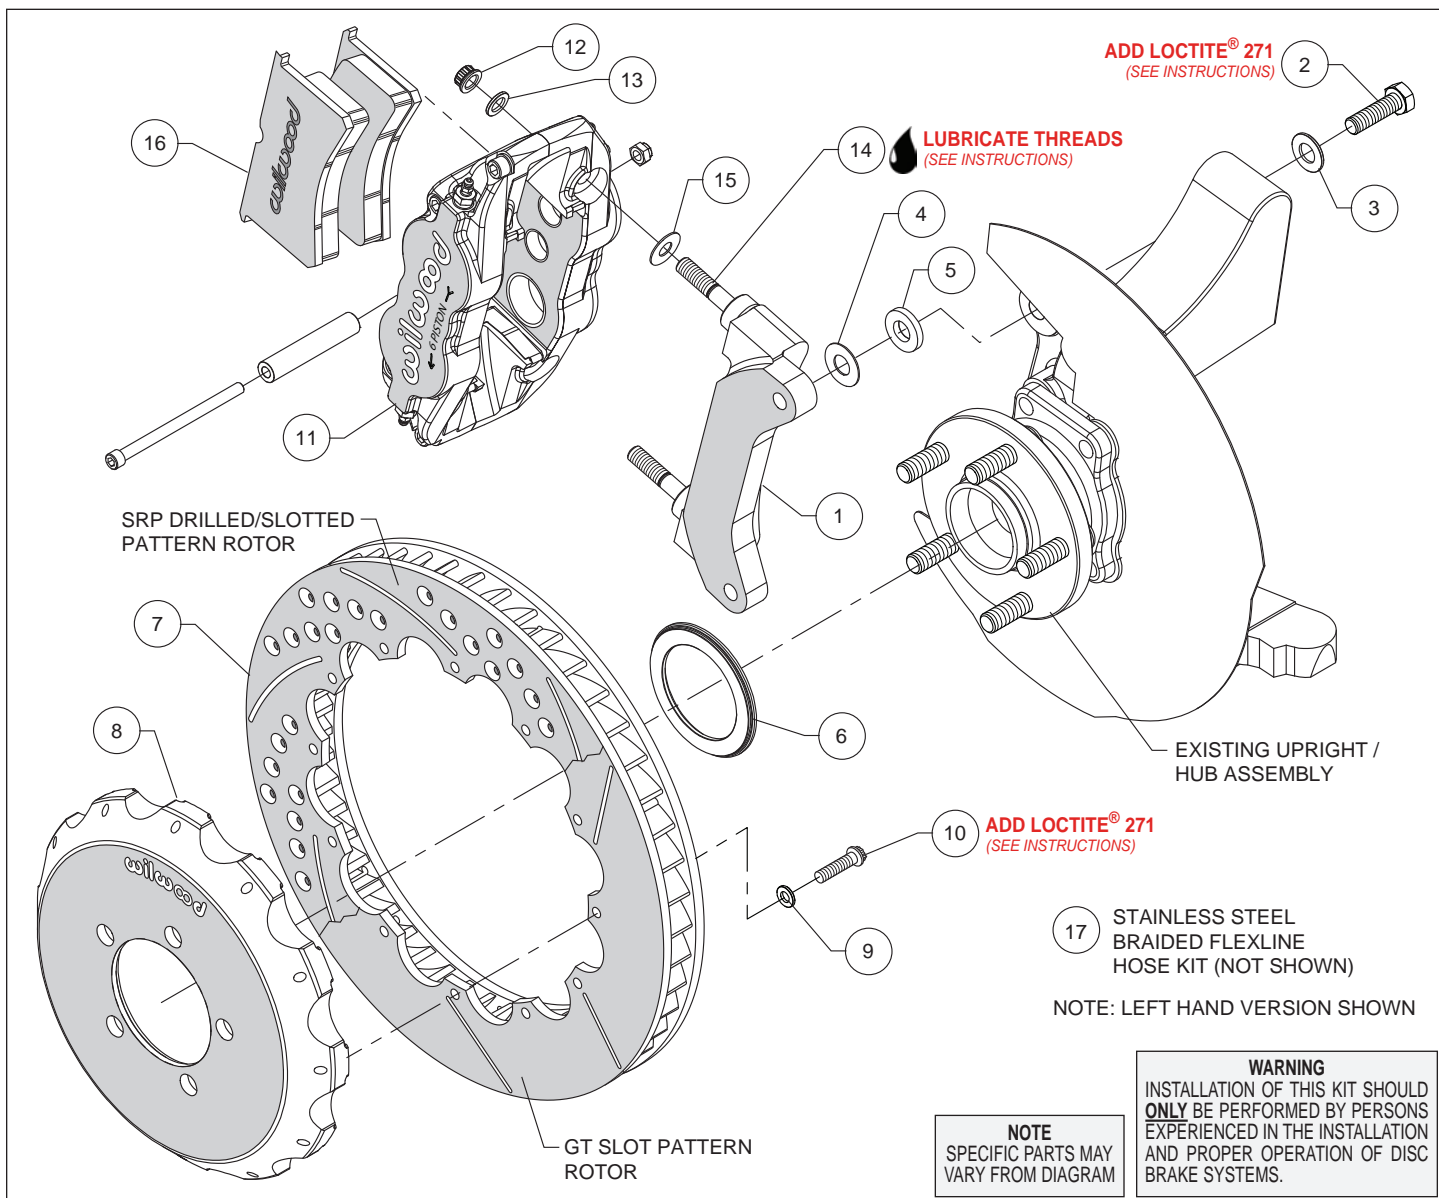
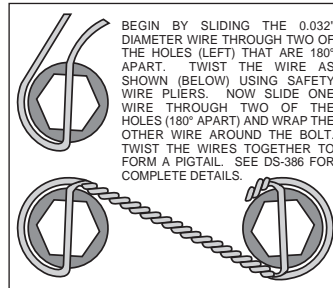

Figure 1. Typical Installation Configuration
Figure 3. Safety Wire Diagram
Assembly Instructions (numbers in parenthesis refer to the parts list and Figure 1 on the preceding pages):
- The caliper mount bracket (1) should initially be installed with clean, dry threads on the mounting bolts. Orient the bracket as shown in Figure 1 and Photo 1, and install using washers (3) and bolts (2). Initially place one shim (4) and spacer (5) on each bolt between the bracket and upright, Figure 1. Temporarily tighten the mounting bolts. **NOTE:** *The bracket must fit squarely against the mount bosses on the upright.* Inspect for interference from casting irregularities, machining ridges, burrs, etc. Later, after the caliper alignment has been checked, the mount bolts will be secured using red *Loctite*® 271.
- Orient the rotor (7) and the hat (8) as shown in Figure 1 and Photo 2. Attach rotor to hat using bolts (10) and washers (9). Using an alternating sequence, apply red *Loctite*® 271 to the threads, and torque to 155 **in-lbs**. For an added measure of security, the bolts may be safety wired using standard 0.032 inch diameter stainless steel safety wire as shown in Figure 3. Please refer to Wilwood's data sheet DS-386 (available at www.wilwood.com/Pdf/DataSheets/ds386.pdf) for complete safety wire installation instructions.
- Slide the rotor registration adapter (6) onto the axle register on the axle hub with the smaller O.D. facing outward, Photo 3. Slide the hat/rotor assembly onto the axle hub. **NOTE:** *The hat must fit flush against the axle hub flange or excessive rotor run out may result.* Install three lug nuts (finger tight) to keep the hat/rotor assembly in place while continuing with the installation.
- NOTE:** *This kit contains distinct right and left hand calipers that must be mounted in a specific direction, as described below.* Lubricate the caliper mounting studs (14) with lightweight oil. Initially place one .035" thick shim (15) on each stud as shown in Figure 1 and Photo 4. Mount the caliper (11) onto the bracket (1) using lock nuts (12) and washers (13), Figure 1. Ensure that the caliper is mounted so that the largest pistons are at the rotor exit end of the caliper, in relation to the direction of rotor rotation. Temporarily tighten the lock nuts and view the rotor through the top opening of the caliper. The rotor should be centered in the caliper, Photo 5. If not, adjust by adding or subtracting shims (4) between the bracket and the upright. Always use the same amount of shims on each of the two mounting bolts. Once the caliper alignment is correct, remove the bracket mounting bolts (2) one at a time, apply red *Loctite*® 271 to the threads, and torque to 60 ft-lb.